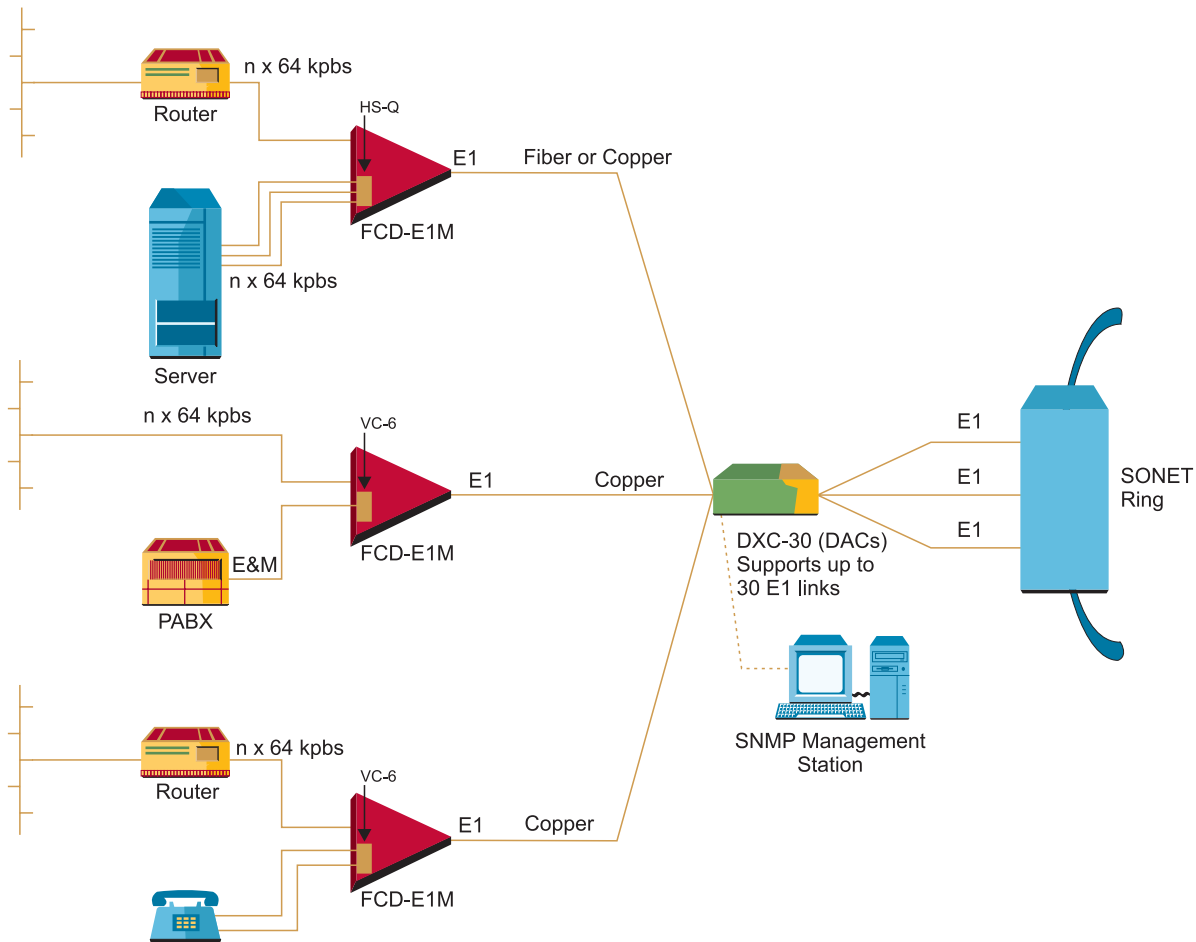

Figure 2. SDH Access Solution for Multiple Remote Sites
- FCD-E1M also operates opposite RAD's modular DXC (multiservice access node) products or other vendors' E1 equipment, for multilink star applications, such as access to SDH networks. The DXCs and FCD-E1M operate together with centralized SNMP network management (see *Figure 2*).